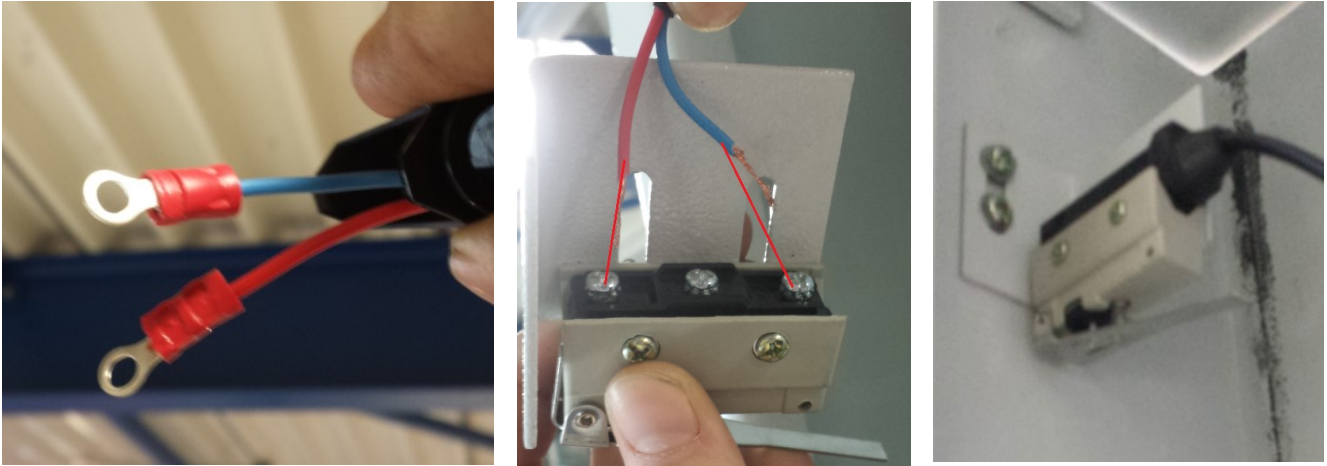

Fig.12b
8. Now connect the limit switch, remove the black plastic cover and rubber, now place the rubber and the cover over the cable. Now squeeze a cable shoe (not included) at the end of each wire and screw both wires on the positions shown in fig.12b.